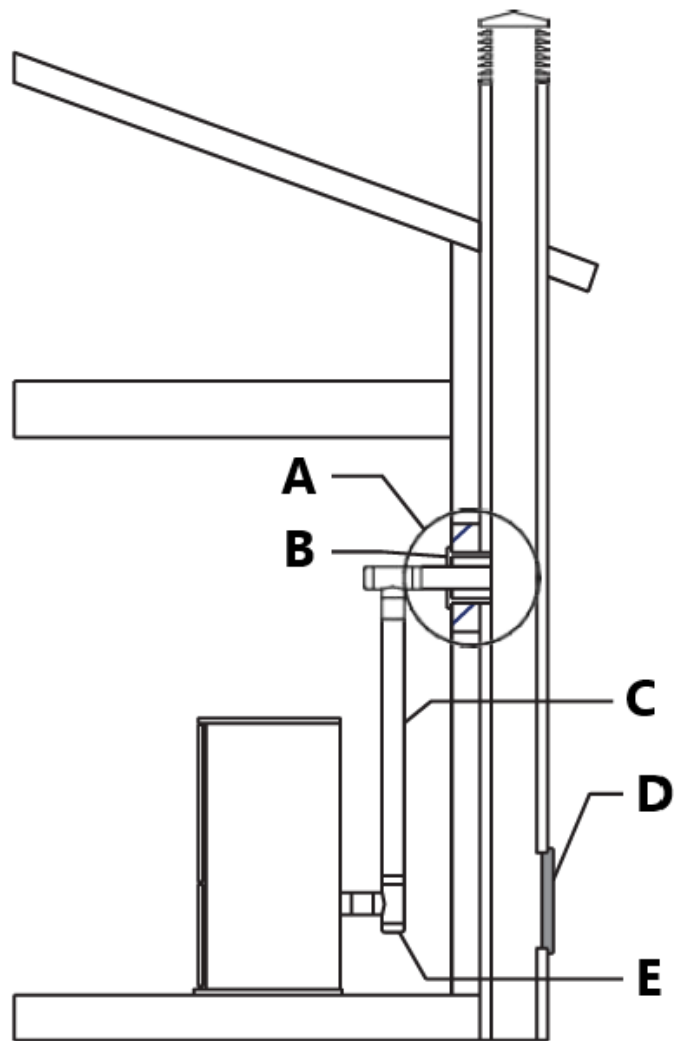

Fig. 12
- If you wish to use an existing chimney it is strongly recommended that you have it checked by a professional chimney sweep to ensure that it is completely airtight (Fig. 12). The reason for this is that the smoke, because it is slightly pressurized, can infiltrate any cracks in the flue and escape into living spaces. If upon inspection you find that the chimney is not completely sound, a relining of the chimney with either PL vent or single wall stainless steel pipe may be necessary to bring the chimney into compliance. If the existing chimney is wide enough we recommend a pipe with a maximum diameter of 6" (15 cm).